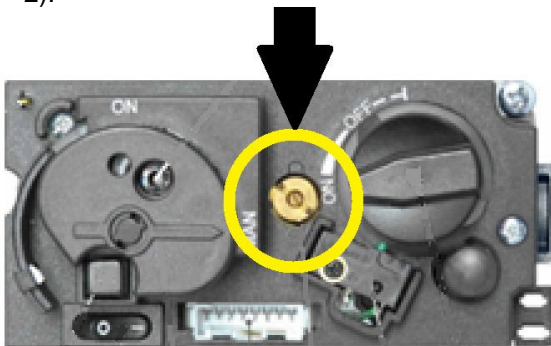

Figure 2 – Outlet Pressure Screw
- 2) Locate the outlet pressure screw (see Figure 2).
3. Turn the small, central pressure regulator adjustment screw (see Figure 2) to set required burner pressure. Pressure is increased by turning clockwise (pressure regulator models), or decreased by turning counter-clockwise.